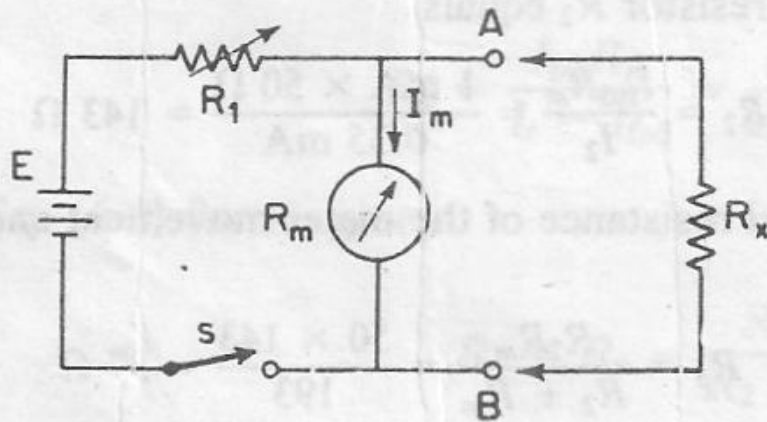

Figure 4-18 Shunt-type ohmmeter.
- The circuit diagram of a shunt-type ohmmeter is shown in Fig. 4-18.
- In Fig. 4-18, when $R_x = \infty$, the full-scale meter current will be
The circuit of Fig. 4-18 uses a 10-mA basic d'Arsonval movement with an internal resistance of $5\ \Omega$. The battery voltage $E = 3\ \text{V}$. It is desired to modify the circuit by adding an appropriate resistor R_{sh} across the movement, so that the instrument will indicate $0.5\ \Omega$ at the midpoint on its scale. Calculate (a) the value of the shunt resistor, R_{sh} ; (b) the value of the current-limiting resistor, R_1 .